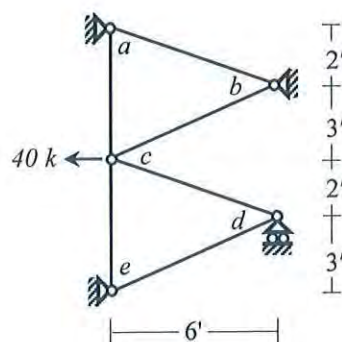

Fig.9
9. Identify zero-force members of the 2D truss *abcde* loaded as shown in Fig.9. Determine the displacements of joint *c* and *d*.